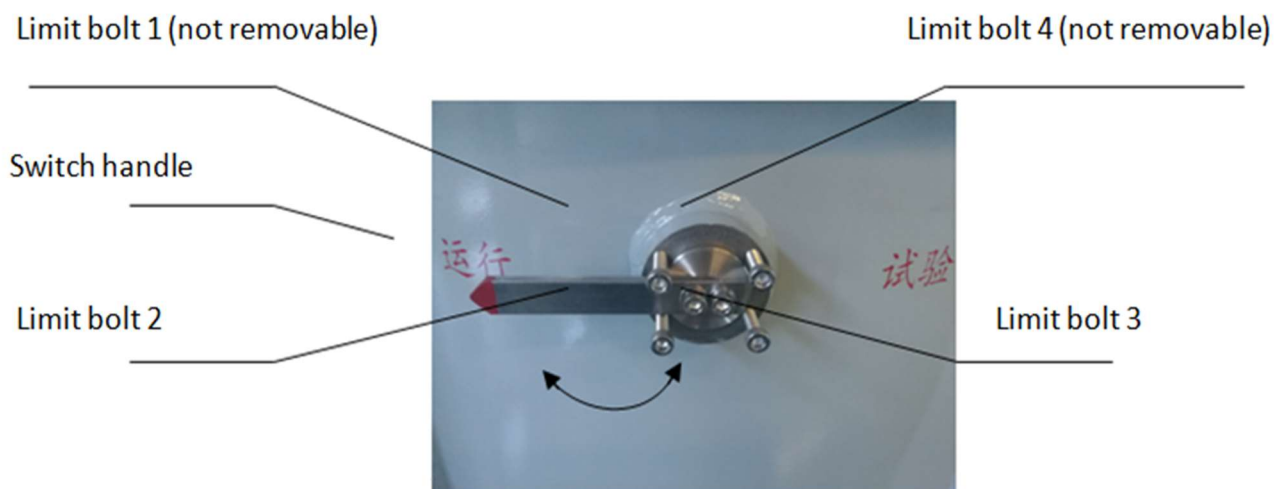

Fig 5 Diagram of handle position on MV earthing switch
5) The transformer with MV earthing switch, the switch is mainly used for short circuit connection of MV terminal to the earth when the transformer is in the field test. When the unit is running, the switch handle is placed at the “running” mark. Otherwise, the transformer may have no secondary output or abnormal output. It is forbidden to operate the switch with power. When switching from “Run” to “Test” position, only remove the limit bolt 2 & 3 and turn the switch handle counterclockwise to the horizontal “test” position. When the unit is running, restore the switch handle and install the limit bolt 2 & 3. The schematic diagram of MV earthing switch is shown in Fig 5.